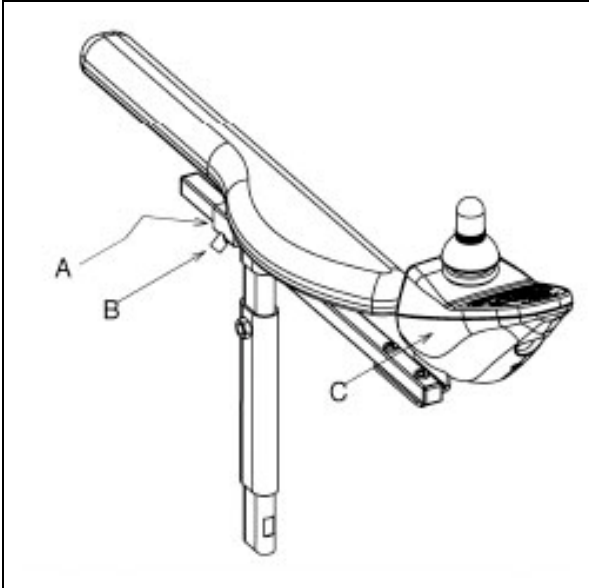

Figure 4.4
1. Loosen the bolt (B in fig. 4.4) a few turns with a 4mm Allen key.
2. Slide the controller (C in fig. 4.4) in the desired position.
1. Loosen the bolt (A in fig. 4.4) a few turns with a 3 mm Allen key.